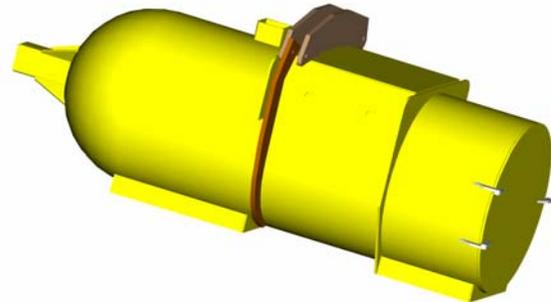

Figure 1
The unit is designed to be set on the ground at a logging site when not in use. When the unit is to be moved by the skidder, back the skidder up to the nose end (opposite the pump end). Lower the grapple so that the tongs wrap around the entire tank. The longitudinal position of the grapple should be such that when the unit is raised, the nose of the tank should tilt up slightly (Figure 1). This will allow the nose guide to contact the bunk of the skidder. After contact is made, raise the grapple slightly to help the stability of the tank during transport. The unit should be carried as low as practical to minimize its effect on the side stability of the skidder.
4. The top plate must extend forward of the center of gravity of the unit including water. This will allow the tank to be carried more level or with slight upward pressure of the nose against the bunk (Figure 1).